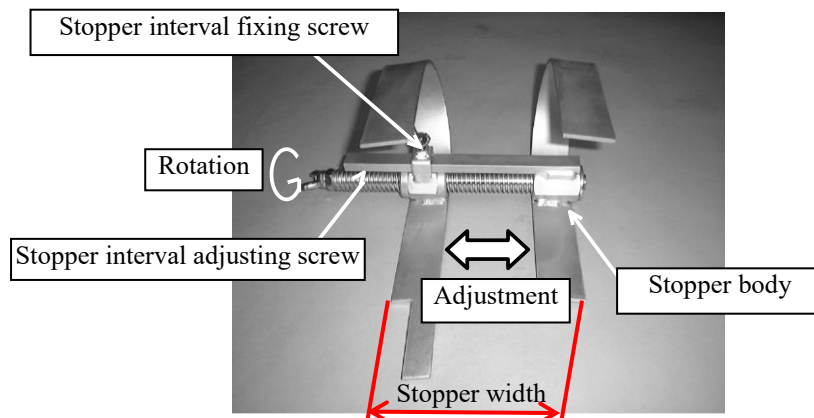
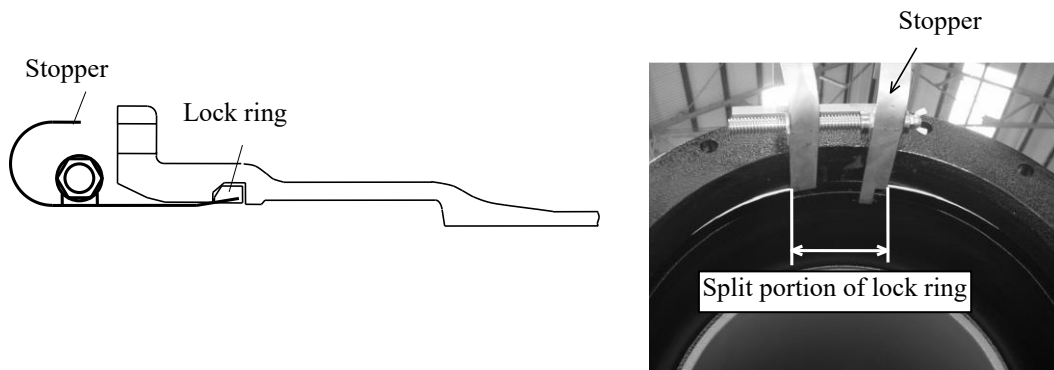

Figure-7 Stopper overview
Figure-8 Stopper installation
- (3) Figure-7 illustrates the stopper for the lock ring. Adjust the stopper width at the same reference value as Table-5. Insert the stopper between the split portion and remove the lock ring expander (refer to Figure-8).